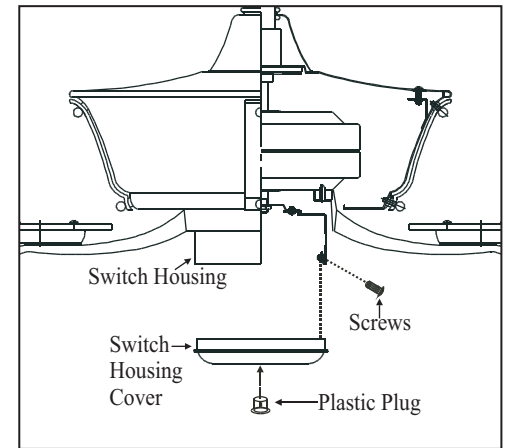

Figure 21
2. Attach the extra plastic plug to the switch housing cover. (Fig. 21)
3. Install the switch housing cover to the switch housing with screws provided. (Fig. 21)